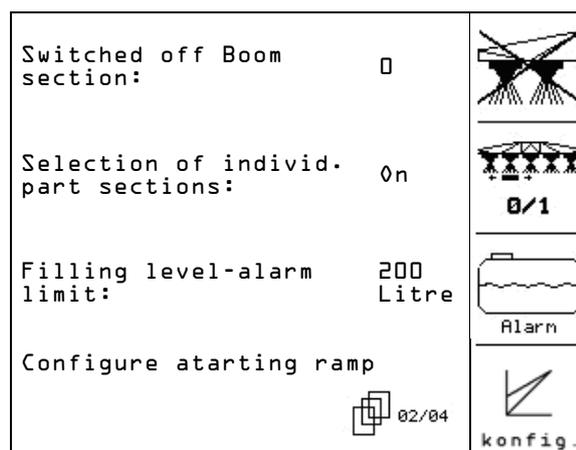

Fig. 22
Page two 02/05 (Fig. 22)
- Switch part width sections off at all times. The displayed number (Fig. 22) provides information about the number of part width sections that are switched off at all times (number 0 = no part width sections switched off). (See page 37).